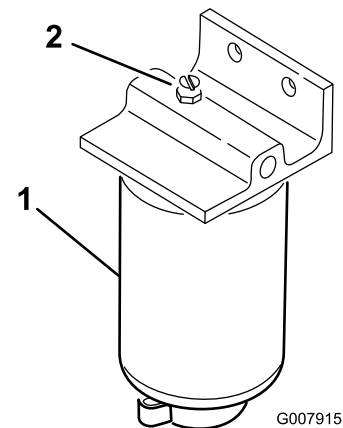

Figure 35
3. Open vent plug on the fuel filter/water separator (Figure 35).